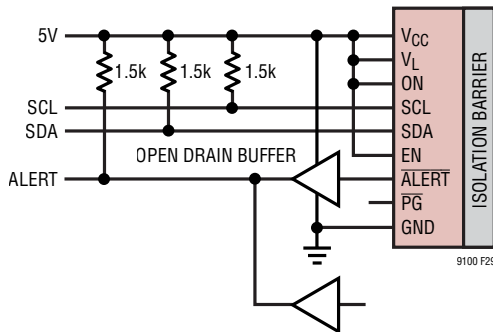

Figure 29. Open Drain Buffer for Shared ALERT Bus
Any of eight distinct I2C bus addresses are selectable using the three-state pins ADRO and ADR1, as shown in Table 2. Note that the configuration of ADRO = L and ADR1 = H is used to enable the single-wire broadcasting mode. For the eight I2C bus addresses, address bits b7, b6 and b5 are configured to (001) and the least significant bit b0 is the R/W bit. In addition, the LTM9100 will respond to two special addresses. Address (0011 111) is a mass write used to write to all LTM9100s, regardless of their individual address settings. Address (0001 100) is the SMBus alert response address. If the LTM9100 is pulling low on the  $\overline{\text{ALERT}}$  pin, it will acknowledge this address using the SMBus alert response protocol. Note, if multiple LTM9100's are configured to share a single ALERT bus then the addition of an open drain buffer is necessary, see Figure 29.